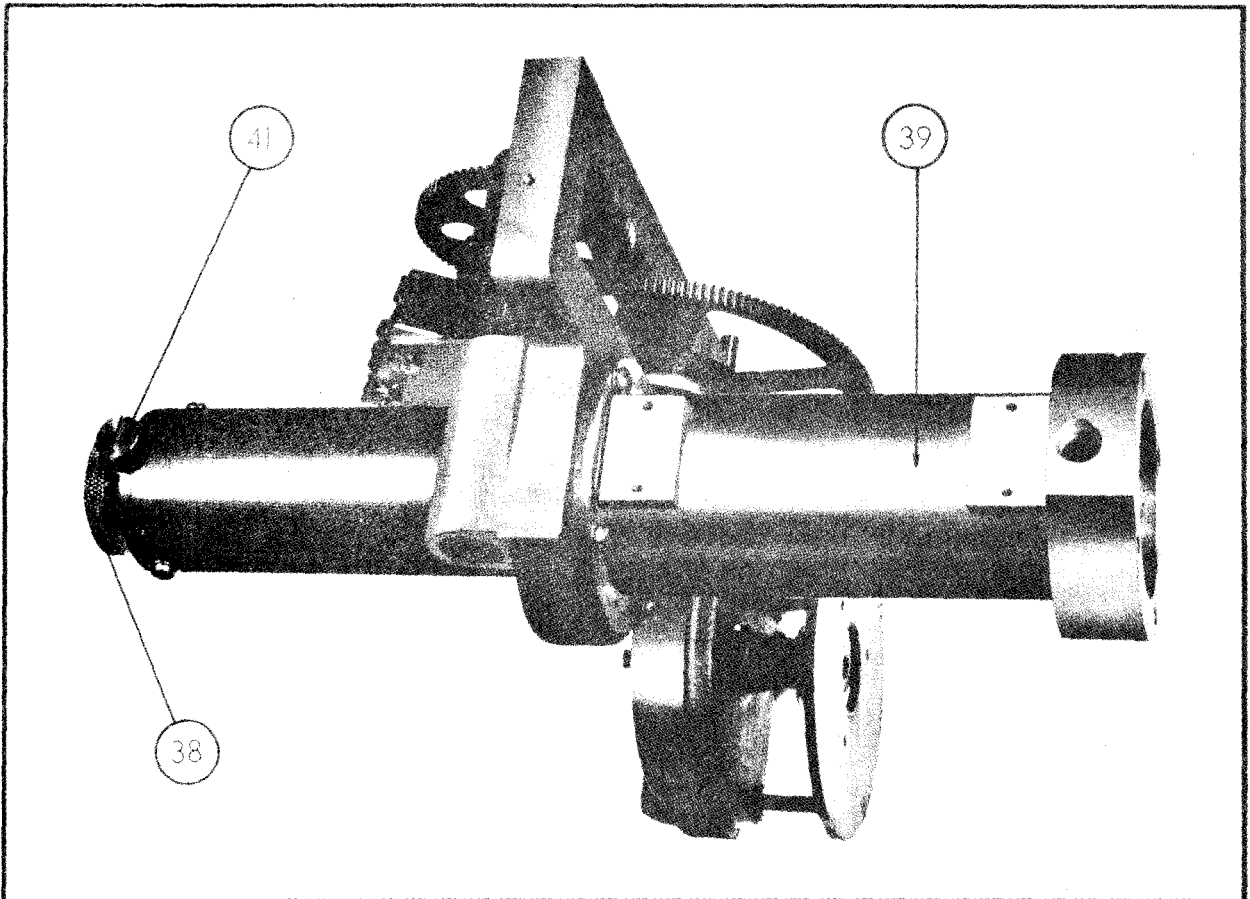

Figure 4-29. Outer Conductor Assembled
with the flat surfaces of the outer conductor pointing up as shown in figure 4-29. The inner conductor should then be inserted through the back side of the wiper housing (opposite the wiper), thin edge first. This must be done very carefully, passing the thin edge of the conductor through the wiper without damaging the edge of the conductor. The thumb screw (41) can then be inserted as shown in figure 4-29 in order to lock the inner conductor. The exact position of the inner conductor is not important, as it is later positioned by the tube.